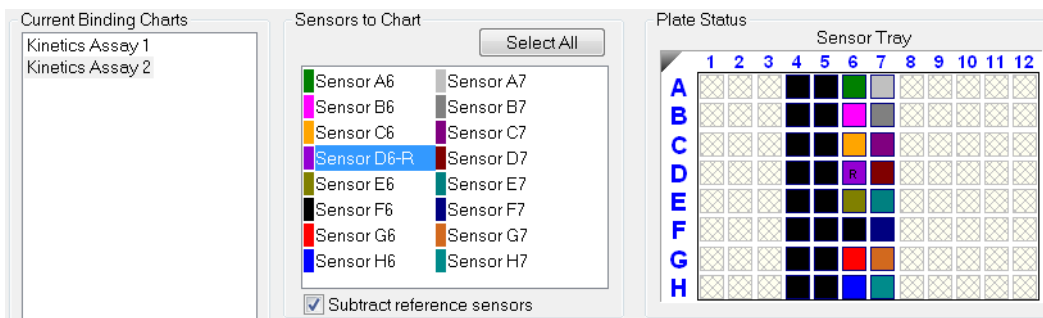

Figure 10-93: Subtract Reference Sensors check box in the Runtime Binding Chart
The selected biosensor will be shown with an **R** in the **Sensors to Chart** list and **Sensor Tray** (see Figure 10-93).
2. Click the **Subtract reference sensors** check box (see Figure 10-93).